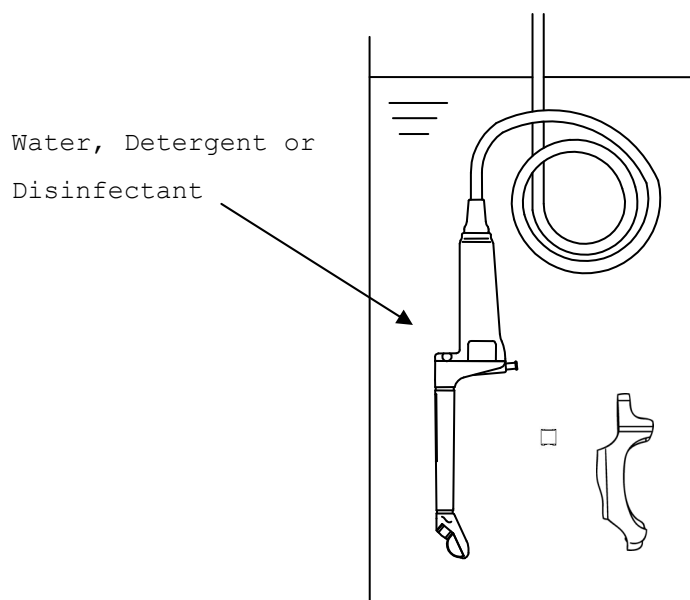

Fig.17 Immersion of the Probe, the Magnetic sensor attachment and the Spacer for EZU-RV2S
(alternatively: immerse the immersible part of the probe in a tray filled with tap water (see Fig.17) for 5 min. and rinse the lumen of the probe with 50 ml deionized water/tap water 5 times by using the syringe)
- 4) Rinse the Magnetic sensor attachment and the Spacer for EZU-RV2S with running tap water for 1 minute. (alternatively: immerse them in a tray filled with deionized water/tap water (see Fig.17) for 5 min.)
- 3) Immerse the immersible part of the probe into the disinfectant (see Fig.17). Use the syringe via the Luer inlet to fill and rinse the lumen with the disinfectant solution. The lumen of the probe is rinsed 5 times under the surface of the disinfectant solution with 50 ml disinfectant. Set a clock to insure the recommended contact time which is 5 minutes. Note that air inside the lumen should be removed to disinfect properly.
(alternatively: immerse the immersible part of the probe in a tray filled with deionized water (see Fig.17) for 5 min. and rinse the lumen of the probe with 50 ml deionized water 5 times by using the syringe)
- 2) Immerse the Magnetic sensor attachment and the Spacer for EZU-RV2S into the disinfectant (see Fig. 17). Set a clock to insure the recommended contact time which is 5 minutes.
- 3) Rinse the Magnetic sensor attachment and the Spacer for EZU-RV2S with deionized water for 1 minute. (alternatively: immerse them in a tray filled with deionized water (see Fig.17) for 5 min.)
(alternatively: immerse them in a tray filled with deionized water/tap water (see Fig.17) for 5 min. and rinse the cavity of the puncture guide fixture with 50 ml tap water. Repeat this 5x.)